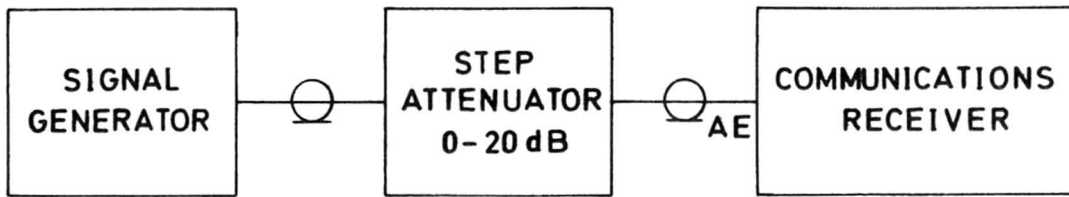

Fig. 6a
- (7) Reconnect the test equipment in accordance with fig.6a.
- (8) Reduce the step attenuator setting, in 1dB steps, until the receiver meter again indicates the reference level.
- (9) Check that the difference between the two settings of the step attenuator is in accordance with Table 3.